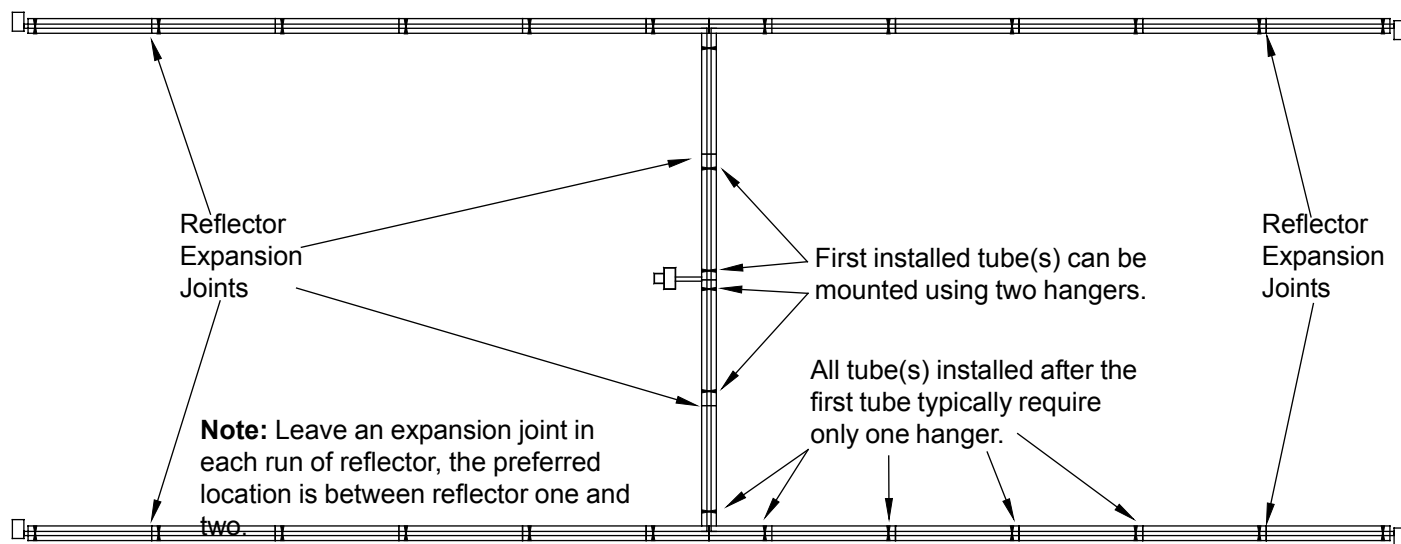

Figure 3-13
2. It may be easiest to begin by mounting the first tube with 2 hangers spaced approximately 8 to 9ft. apart. Every 10 ft. tube thereafter should only need 1 hanger spaced at approximately 8 to 9ft. apart. Refer to figure 3-13 on page 18 for an example of hanger placement.